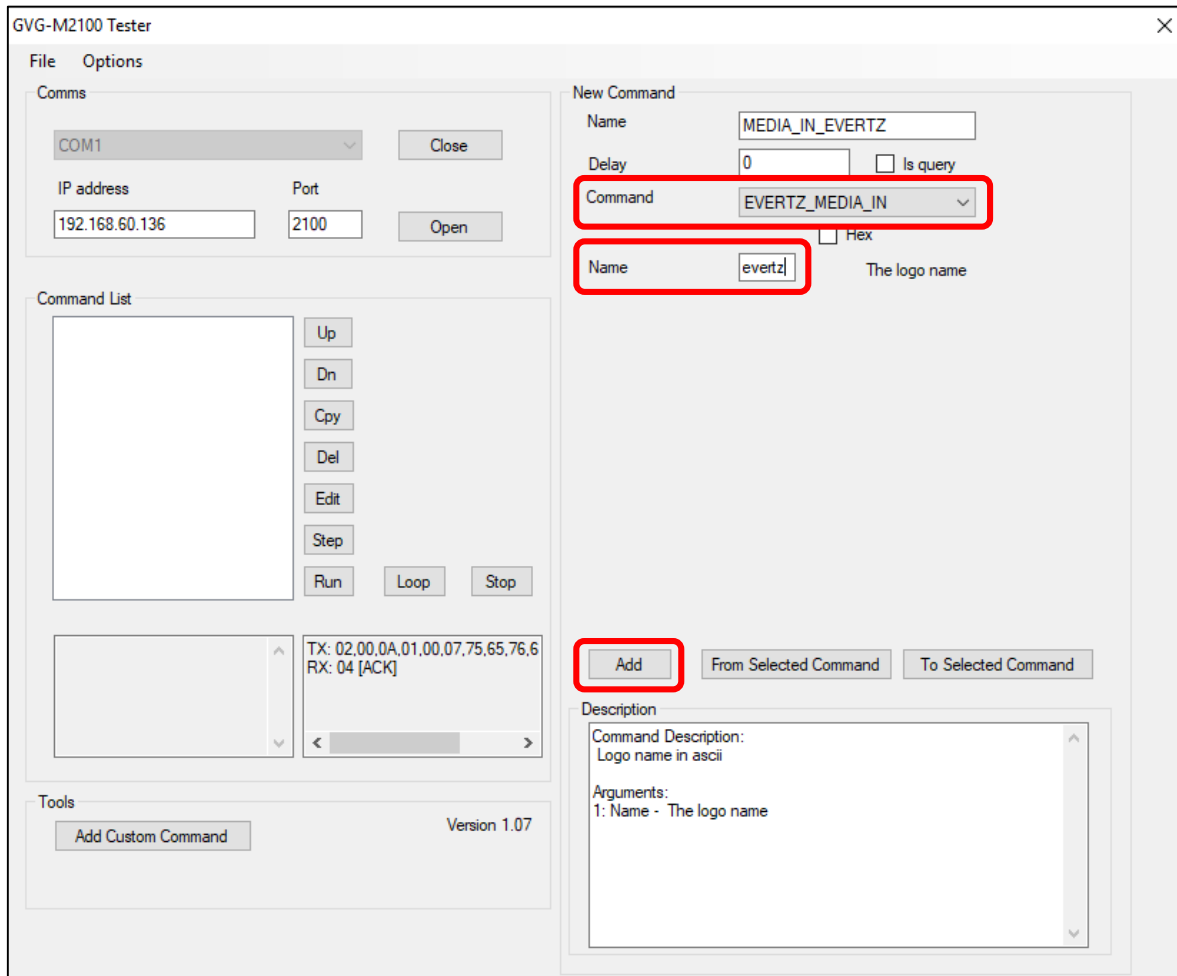

Figure 5-9: M2100 – Add Command to Display Logo Through All Outputs
- 1) Select '**EVERTZ_MEDIA_IN**' in the 'Command' option, include the name of the logo in 'Name' field and press 'Add' button, so the command will be moved/stored to the 'Command List' on the side of the window, as Figure 5-9.